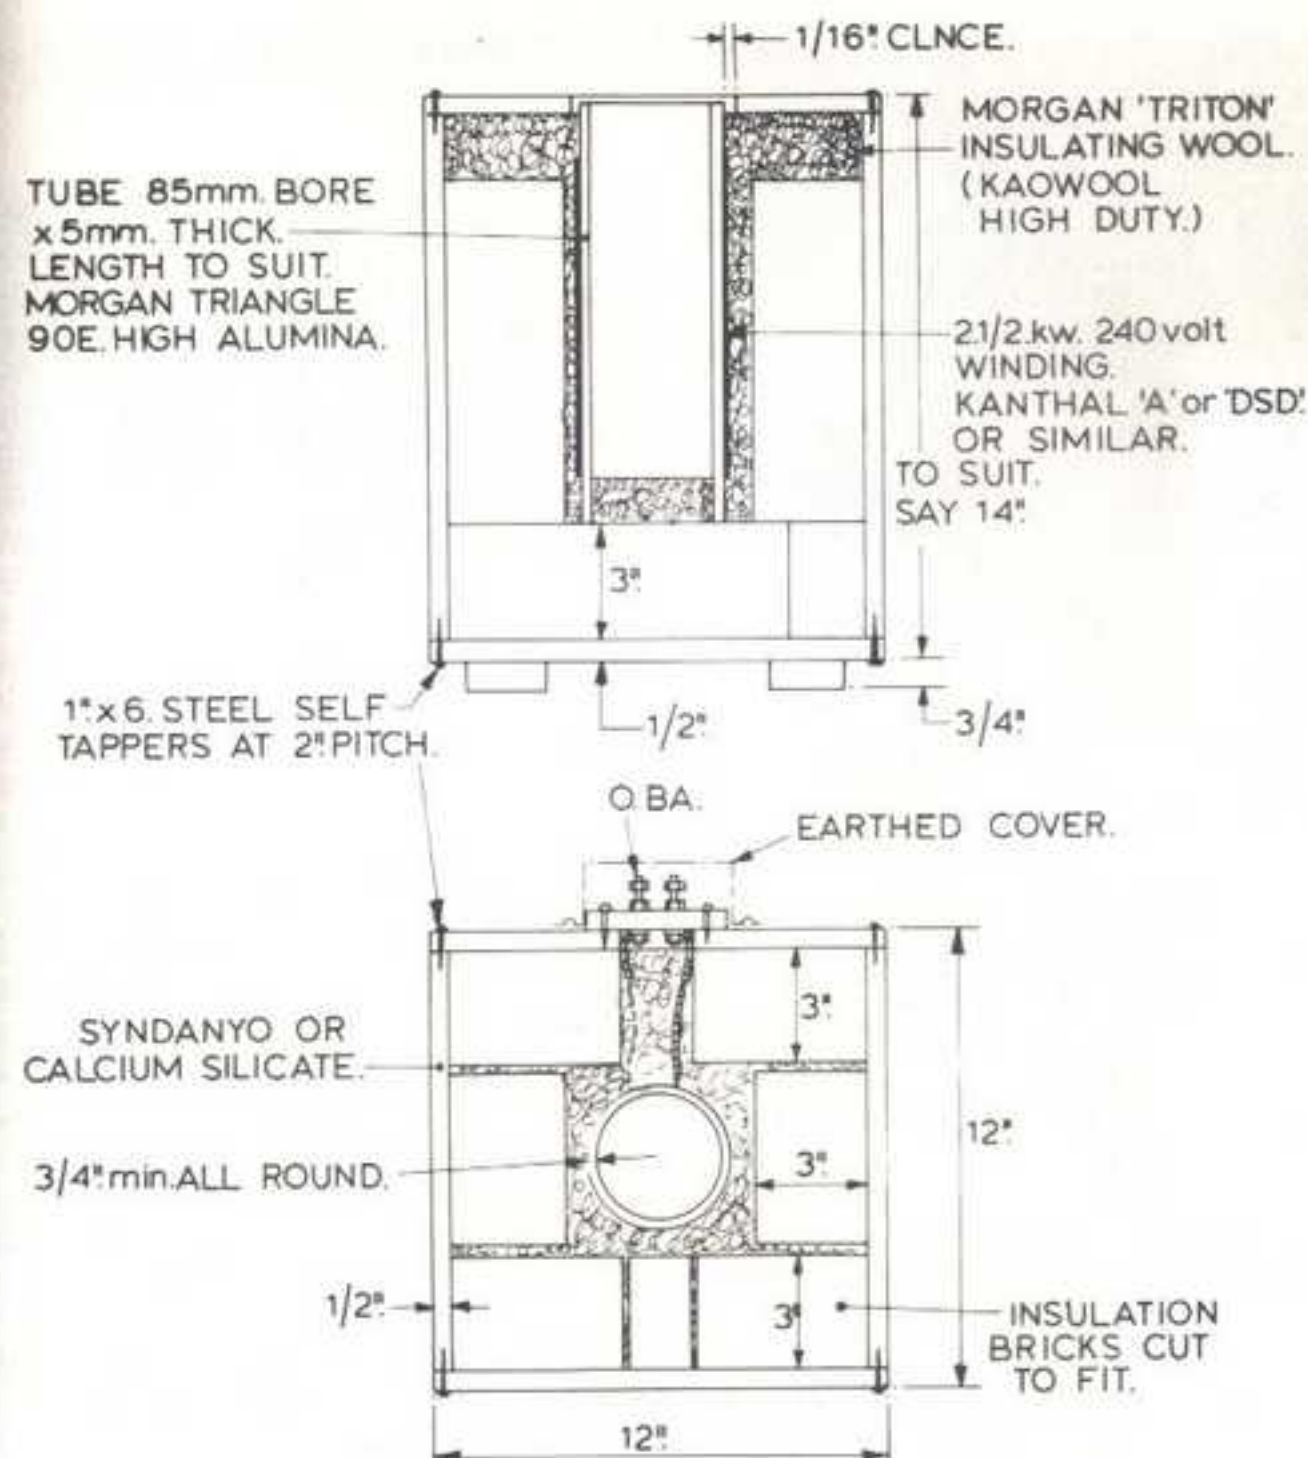

Fig. 58 Outline details of a furnace similar to Fig 57. Detail changes have been made to reduce heat losses.
3  $\frac{3}{8}$  in. bore Morgan 90E High Alumina wound with a Kanthal element for 240 volts. If buying a wound tube it is important to specify the power input – 2  $\frac{1}{2}$  to 2  $\frac{3}{4}$  KW in this case – the applied voltage, and the operating temperature of the ceramic tube. This will be higher than that in the salt pot itself, so that a sketch of the arrangement, or a copy of Fig. 58, should be sent with the enquiry. The outer casing is of  $\frac{1}{2}$  in. Syndanyo, though today one of the Calcium Silicate substitutes from Cape Insulation Ltd would be used. The immediate insulation material round the element is "Triton" Kaowool ceramic fibre, supplied by Morgan Ceramic Fibres Ltd, Bromborough, Wirral L62 3PH. The standard grade is good for 1250°C, but I suggest the "High Duty" rated at 1400°C. This is packaged into the space between the element itself and the heat insulating bricks – which are cut roughly to leave about 1 inch gap between their surface and that of the element. The bottom of the tube is packed with the wool also, but this must not lie above the first coil of the element.
**High Temperature Salt Furnace.** Fig. 57 shows my 2  $\frac{3}{4}$  in. x 10 in. neutral salt furnace for temperatures up to about 950°C, rated at just under 2.8 KW. This is, perhaps, rather larger than might be needed, and a 2  $\frac{1}{2}$  in. x 8 in. would do for most applications, but it was originally made (not by me) as a small laboratory furnace. Fig. 58 is the drawing. The tube is